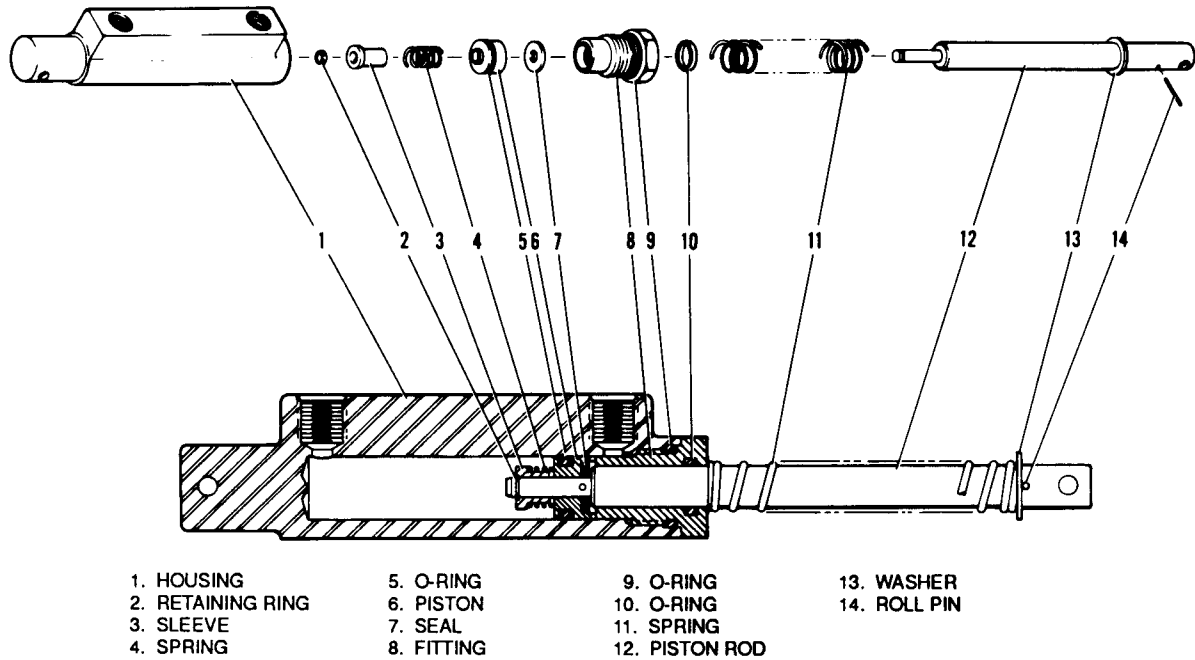
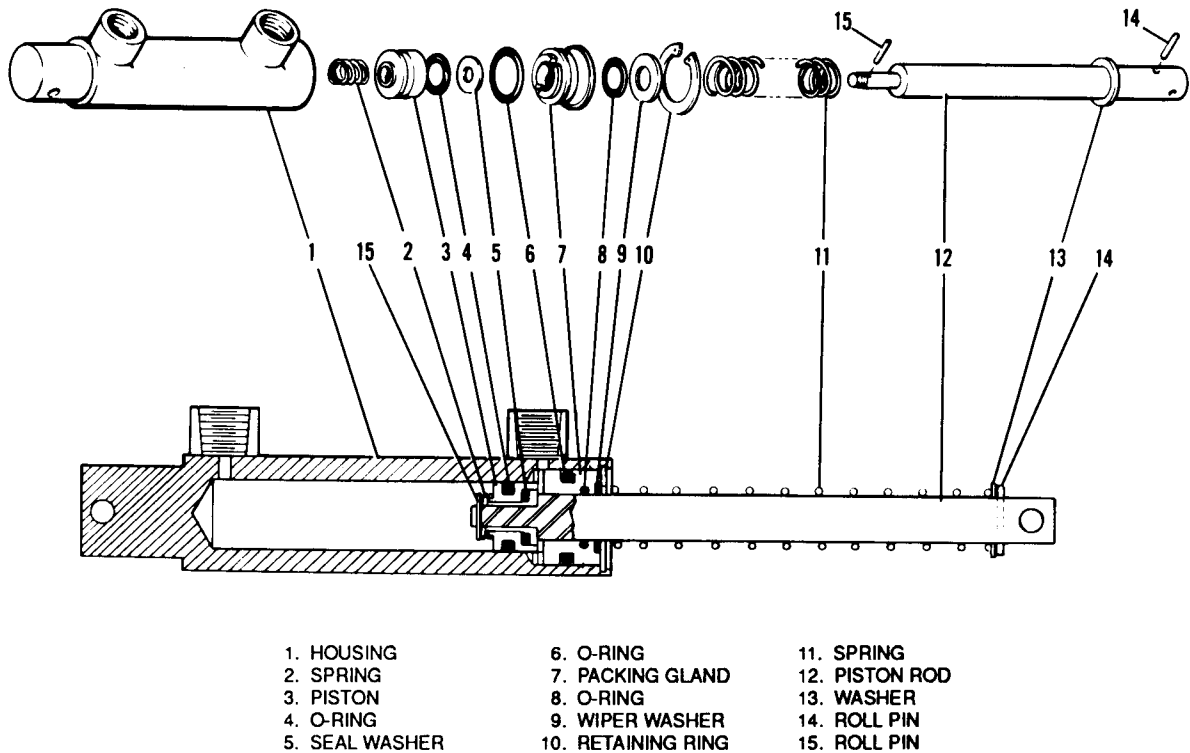
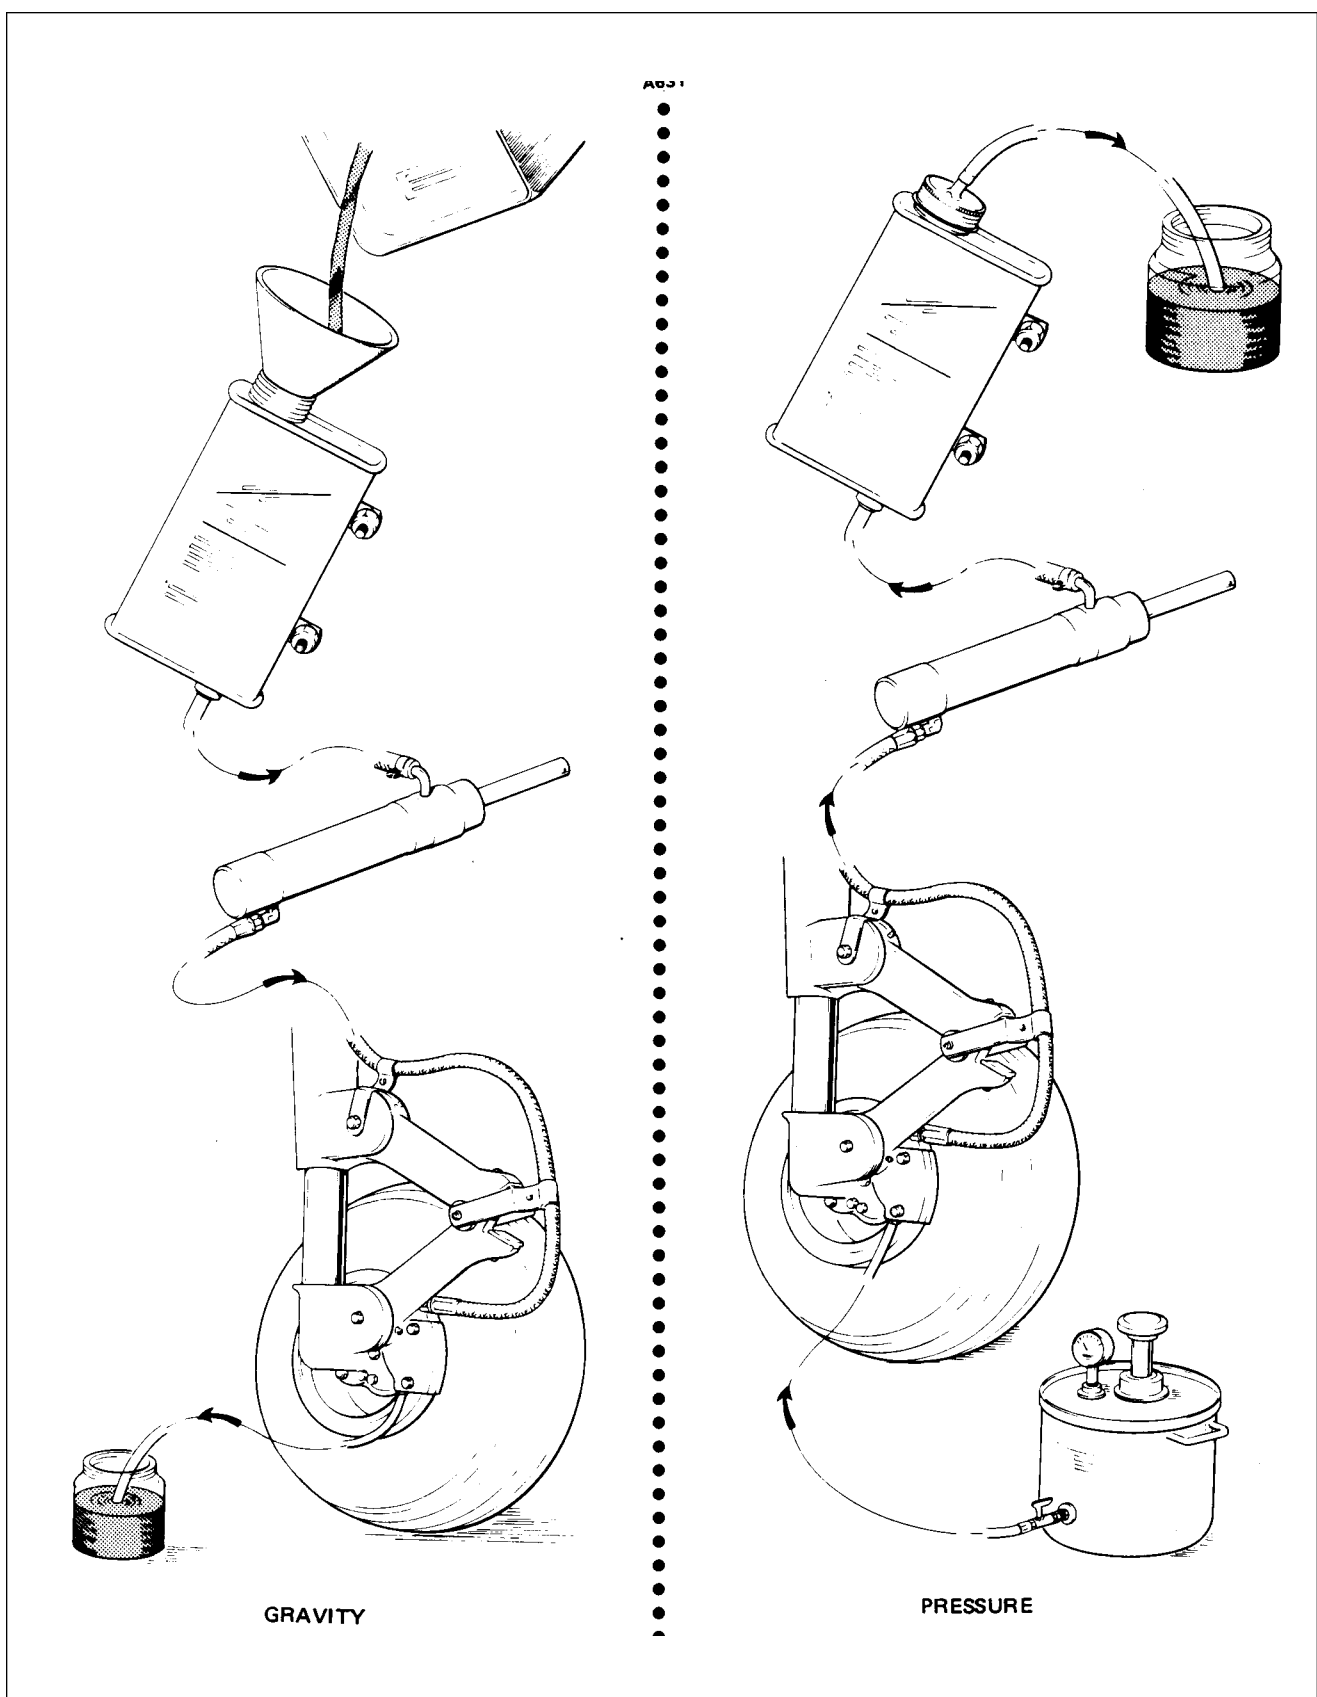

Figure 7-24. Brake Cylinder
Figure 7-25. Brake Cylinder
Figure 7-26. Bleeding Brakes
- Gar-Kenyon cylinder number 17000. (Refer to Figure 7-24.)
- To disassemble the cylinder, first remove the piston rod assembly by unscrewing the fitting (8) from the cylinder.
- The piston rod assembly may be disassembled by first removing the retaining ring (2) and securing the sleeve, and then the spring (4), piston (6), seal (7), fitting (8) and if desired, the large return spring (11).
- Cleveland cylinder number 10-27. (Refer to Figure 7-25.)
- To disassemble the cylinder, first remove the piston rod assembly by removing the retaining ring (10) from the annular slot in the cylinder housing (1). Draw the piston rod assembly from the cylinder.
- The piston rod assembly may be disassembled by first removing the roll pin (15), spring (2), and then the piston assembly (3), seal (5) and packing gland (7), and if desired, the large return spring (11).
**7-67. ASSEMBLY OF BRAKE CYLINDER. (Refer to Figures 7-24 and 7-25.)**
- a. Gar-Kenyon cylinder number 17000. (Refer to Figure 7-24.)
1. Install new O-rings on the inside and outside of the fitting (8) and on the outside of the piston (6).
2. To assemble the piston rod assembly, install on the rod (12), in order, the roll pin (14), return spring retainer washer (13), return spring (11), fitting (8) with O-rings, seal (7), piston (6) with O-ring, spring (4) and sleeve (3). Secure these pieces with the retaining ring (2) on the end of the rod.
3. Insert the piston rod assembly in the cylinder (1) and secure fitting (8).
- b. Cleveland cylinder number 10-27. (Refer to Figure 7-25.)
1. Install new O-rings on the inside and outside of the packing gland (7) and on the outside of the piston (3).
2. To assemble the piston rod assembly, install on the rod (12), in order, the roll pin (14), washer (13), spring (11), washer (9), packing gland (7) with O-rings, seal (5), piston assembly (3) with O-ring, spring (2), and roll pin (15).
3. Insert the piston rod assembly in the cylinder (1) and secure with the retaining ring (10).
**7-68. INSTALLATION OF BRAKE CYLINDER. (Refer to Figure 7-24.)**
- a. Position brake cylinder (14) at its mounting points and secure in position with clevis pin (4 and 16). Safety clevis pin with cotter pins.
**7-70. BRAKE BLEEDING PROCEDURE (Gravity). (Refer to Figure 7-26.)**
**7-71. BRAKE BLEEDING PROCEDURE (Pressure). (Refer to Figure 7-26.)**